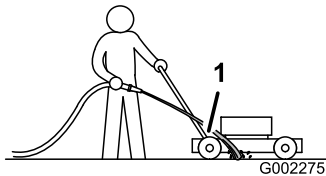

Figure 38
3. Hold the running garden hose at handle level and direct the water to flow on the ground just in front of the right rear tire (Figure 38).